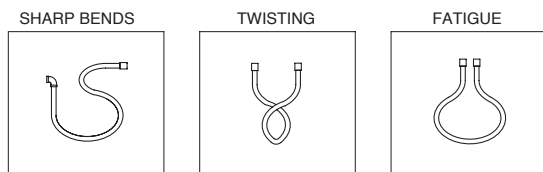

FIGURE 5-14
3. Run the 3/8 in. schedule 40 pipe from the hose connection to the distribution nozzles installed to the appliance. Install the pipe adequately secured at a height at or below the cooking surface of the appliance. (See Figure 5-14.)
3. The agent distribution hose should always be in a vertical natural loop, never having any bends smaller than a 3 in. (76 mm) radius (6 in. (152 mm) diameter), hose twists, or sharp bends (See Figure 5-14). If any of these conditions exist, the hose and/or hose connections require installation modifications.